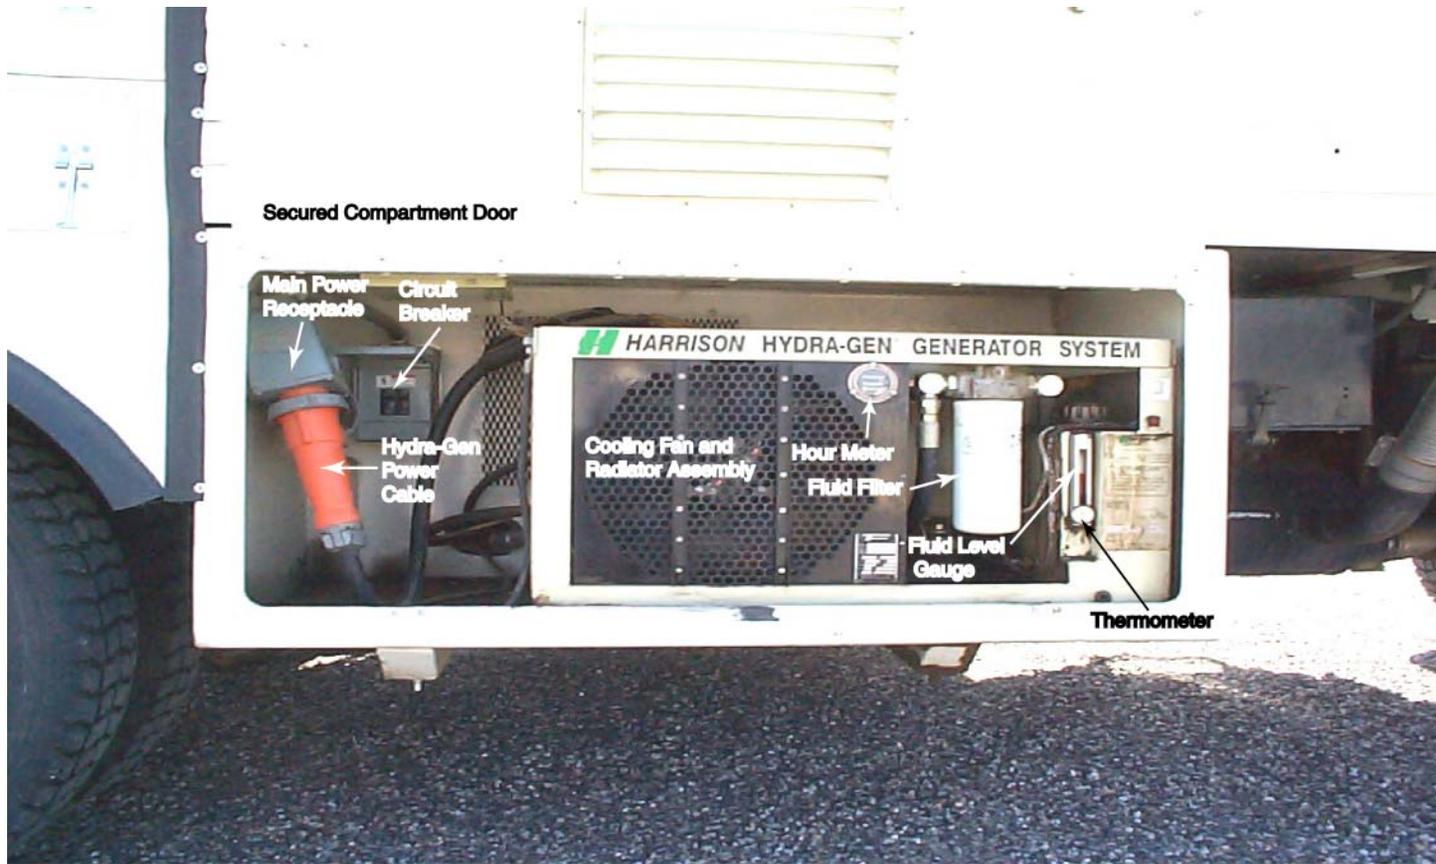

Figure 3. Harrison Hydra-Gen Generator System
Gamma 1 and Gamma 2 are each equipped with a 15-kilowatt (kW) hydraulic generator, or Hydra-Gen[®] manufactured by the Harrison Equipment Co. (Figure 3). This is the main generating source of alternating current (AC) for electrical systems operating on the vehicles.
The Hydra-Gen[®] is mounted under the vehicle on the outside of the frame in a vented compartment and is secured by a locking door. Included inside the compartment are the main circuit breaker box and the main power receptacle (Figure 3). These two devices are used to isolate the generator from the Power Distribution Panel (Section 4.1) and for connecting shore power directly to the vehicle. A special power cable and receptacle are needed if shore power is required. Shore power is not used during logging activities.
The Hydra-Gen[®] is equipped with a small fluid reservoir filled with synthetic automatic transmission fluid (ATF) to lubricate the generator’s moving parts. A thermometer and see-through liquid-level gauge are used to view the status of this reservoir. To cool the ATF, the Hydra-Gen[®] is equipped with a cooling fan and radiator assembly that are automatically actuated by thermostat control (Figure 3). A large reservoir, filled with synthetic ATF, is located under the back of the vehicle and supplies the pumps with hydraulic fluid for operation. These fluid levels need monitoring. The Hydra-Gen[®] is subject to the following constraints: